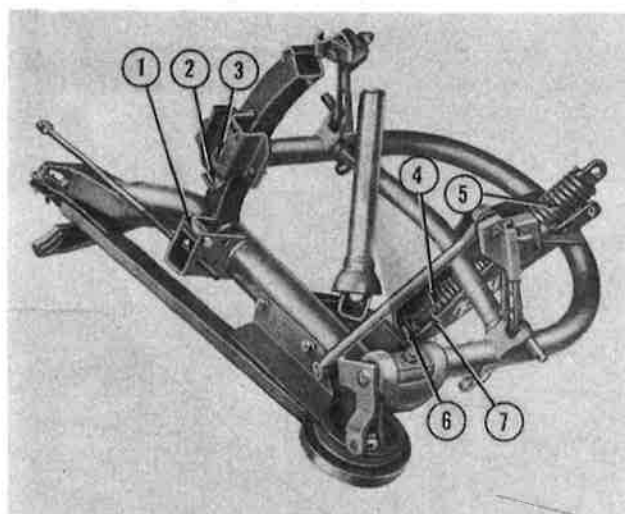

Figure 11
Mower Lift Spring: The lift spring (5), Figure 11, carries most of the mower weight in the operating position and directly controls the ground pressure on the inner shoe. To permit the cutter bar to follow the contour of uneven ground without excessive wear on the inner shoe, adjust the lift spring to maintain between 40 and 80 pounds on the inner shoe. When crossing borders, set the lift spring a little heavier.
To adjust the lift spring (5), Figure 11, lift the mower to transport position to reduce spring tension. Loosen the lock nut (4) and turn the spring adjusting
bolt (7) in or out as required. Secure the adjustment by turning the lock nut (4), Figure 11, against the spring as shown. The nut (6) should be kept tight against the washer so the rubber bushing will absorb shock and prevent the spring adjusting bolt (7) from rattling when the mower is in transport.
Cutter Bar Breakout Spring: To check breakout, loosen the bolt (3) until the breakout releases easily, then tighten as necessary. The breakout spring, concealed in the right leg of the mower upper frame, applies tension to the breakout latch (2), Figure 11, which when engaged with the roller (1) connects the right side of the upper and lower frame. When the cutter bar strikes an obstruction, the sudden added force on the cutter bar forces the latch off the roller and the cutter bar breaks back. A sliding connection is maintained between the upper and lower frame and the breakout latch may be reengaged by backing the tractor with the cutter bar on the ground. To adjust the tension on the latch (2), Figure 11, turn the bolt (3) in or out as required. The roller (1) must be free to roll for proper functioning.